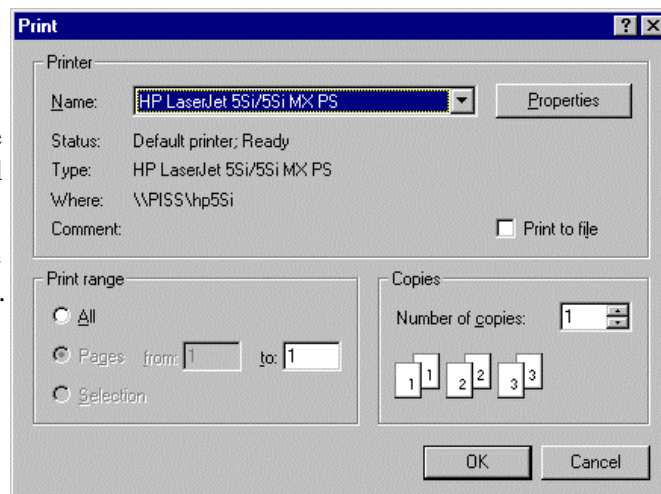

Figure 151. Print dialog box
1. From the File menu, open the Print dialog box (Figure 151).